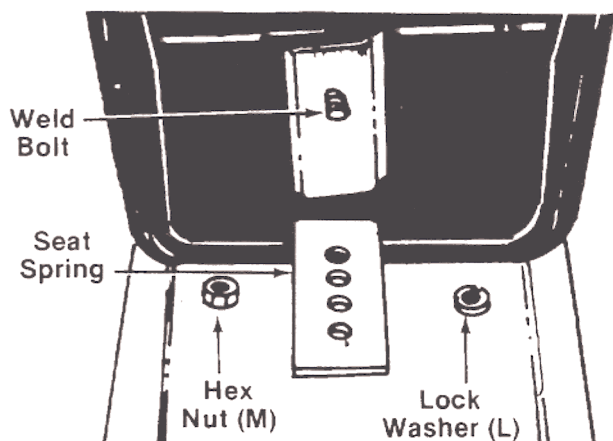

FIGURE 13.
The seat may be adjusted to four different positions. Select desired position and secure seat to seat spring with lock washer (L) and hex nut (M). A 3/4" or adjustable wrench is required. See figure 13.